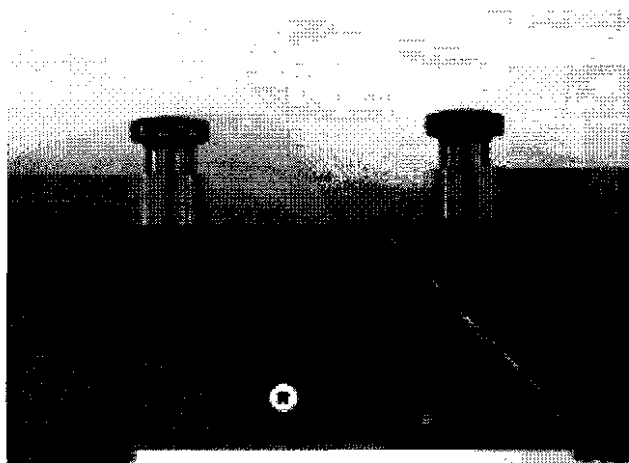

Figure 15 A partially-cut jointed edge
- **Step 5:** Simply adjust the Outfeed Fence so it is 1/32" to 1/16" forward of the position of the Infeed Fence to support the removed edge once it's cut. You will achieve the best results if you limit your depth-of-cut to 1/32" to 1/16" in a single pass. See Fig. 15.